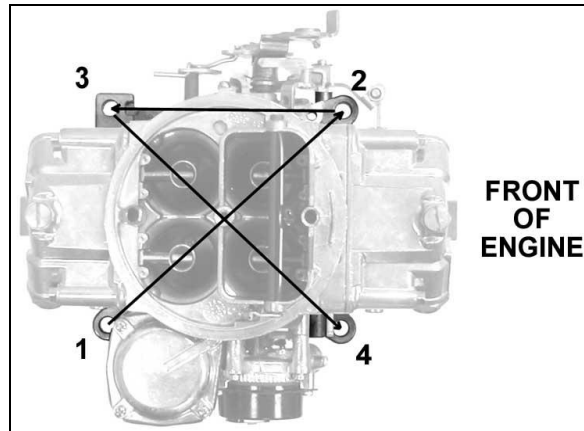

Figure 2—Carburetor torque sequence (all Holley carburetors)
6. Place the carburetor on top of the flange gasket on the manifold. Install the hold down nuts and snug down progressively in a "crisscross" pattern (60-80 in./lbs.), as shown in Figure 2.